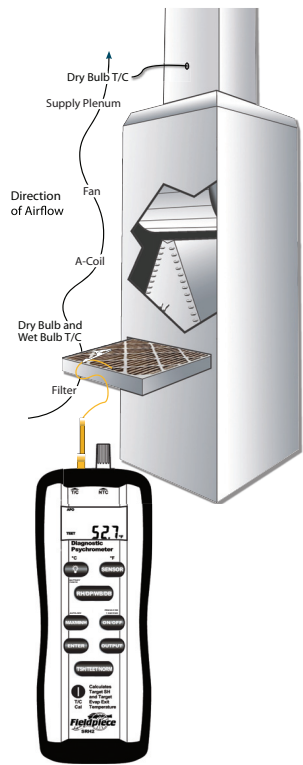

Figure 1
2. Wet the ATWB1 wet sock thermocouple and clip both thermocouples (ATWB1 and ATA1) in front of the evaporator, (see figure 1 on next page).